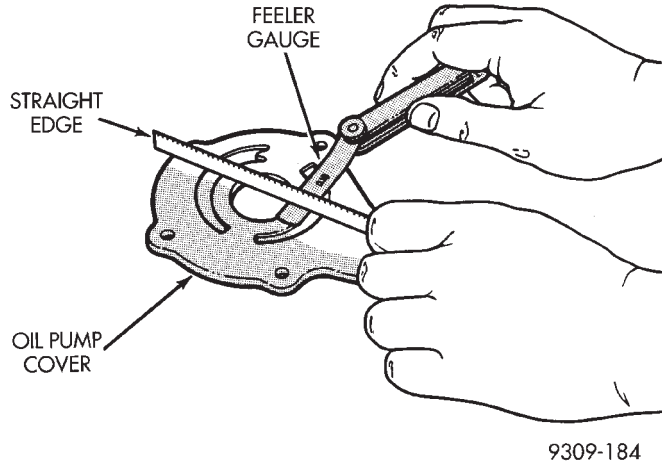

Fig. 114 Checking Oil Pump Cover Flatness
(1) Clean all parts thoroughly. Mating surface of the oil pump housing should be smooth. Replace pump cover if scratched or grooved.
(2) Lay a straightedge across the pump cover surface (Fig. 114). If a 0.076 mm (0.003 inch.) feeler gauge can be inserted between cover and straight edge, cover should be replaced.